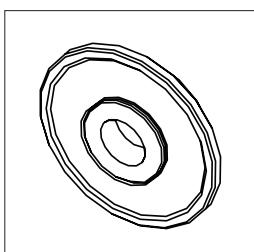
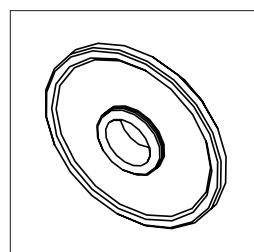

Fig. 7b
Fig. 7c
**Note:** For North American market only, a dual side arbor flange is included, to allow 1" bore blades (**Fig. 7b**) and 5/8" bore blades (**Fig. 7c**).